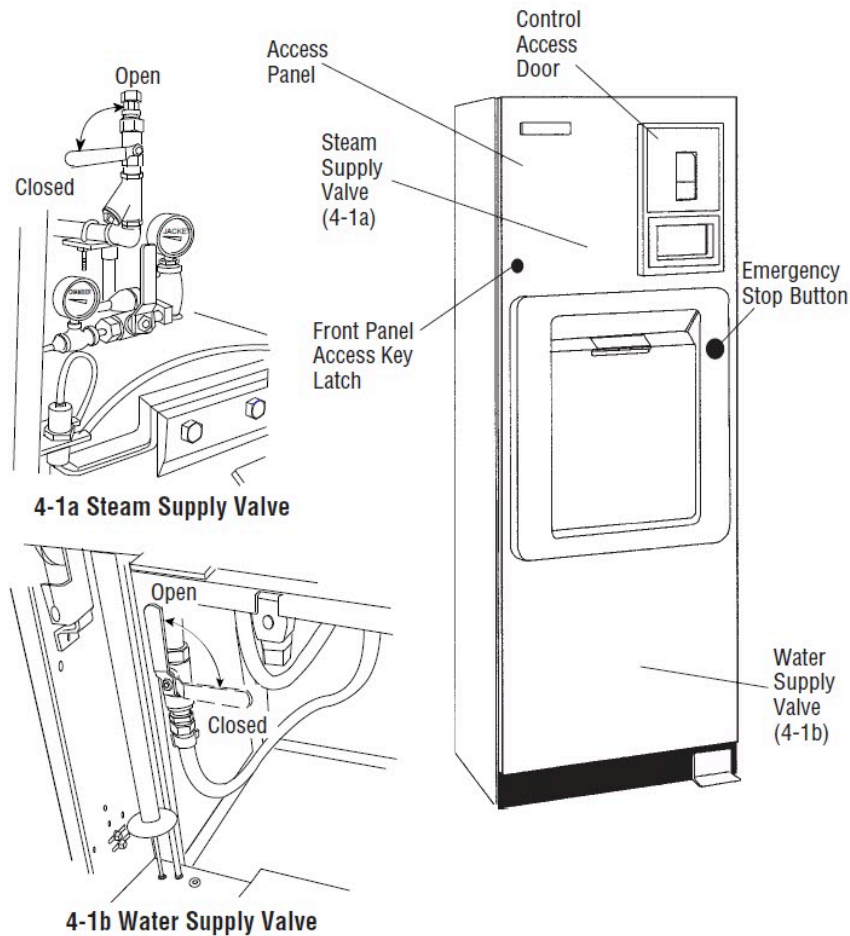

Figure 4-1. Steam Valves
3. Open access door on operating end of the sterilizer — refer to Figure 4-1. Turn on steam (Figure 4-1, 4-1a) and water (Figure 4-1, 4-1b) supplies. Close access door.